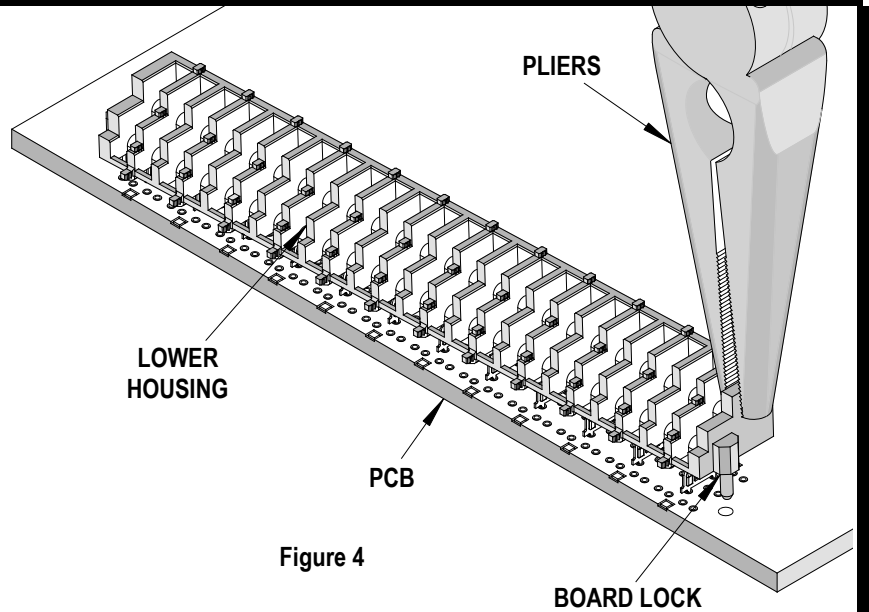

Figure 4
5. Next remove the lower housing from printed circuit board by using a Needle Nose Pliers. Pull up on the side wall of the housing until it is out of the printed circuit board. Then do the same to the opposite end until it disengages from the printed circuit board. Set aside. See Figure 4.